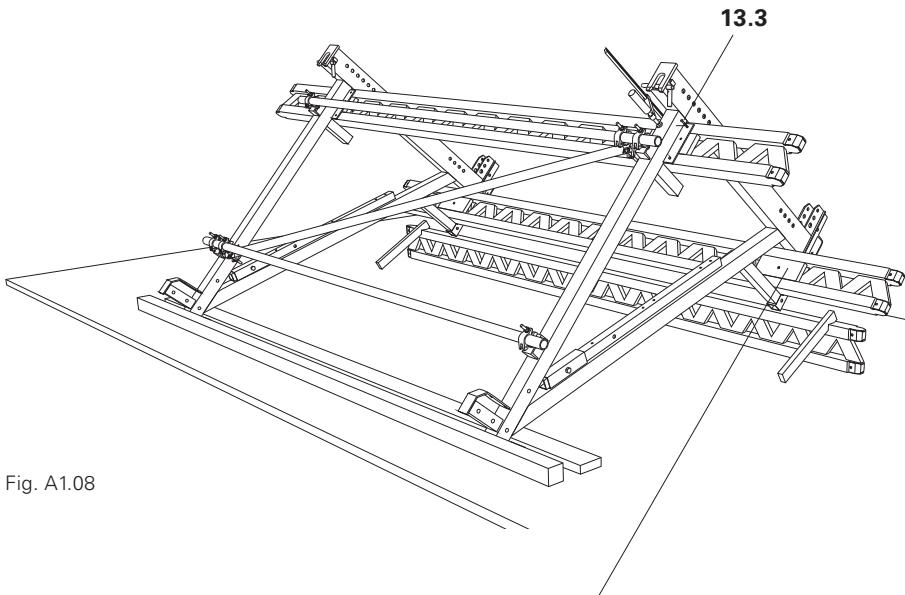

Fig. A1.08
When using PERI GT 24 girders, strengthen them on both sides in the area of the brackets with plywood strips (13.2). (Fig. A1.08)
2. Fix diagonals to the fixing plates using two hex. wood screws 6 x 80 (13.3) in each case. (Fig. A1.08)